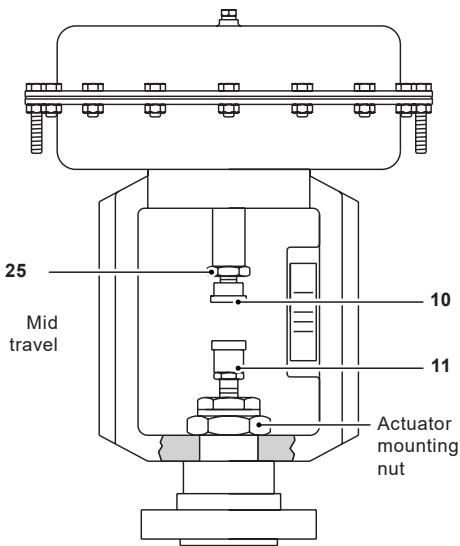

Fig. 4
3.2 Fitting the PN9100E, PN9200E or PN9300E actuator to a valve (Figures 4 and 5):
- Remove the front and rear clamp (13 and 14). Then remove the valve adaptor (11).
- Fit the valve adaptor (11) onto the valve spindle then manually push the valve plug to its closed position.